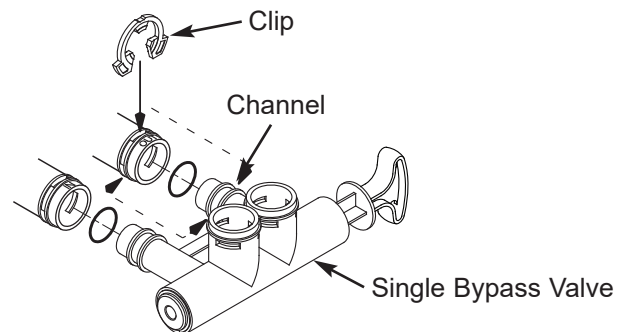

FIG. 11
5. Push the single bypass valve into the conditioner valve as far as it will go. Snap the two large holding clips into place, from the top down as shown in Figures 11 & 12.